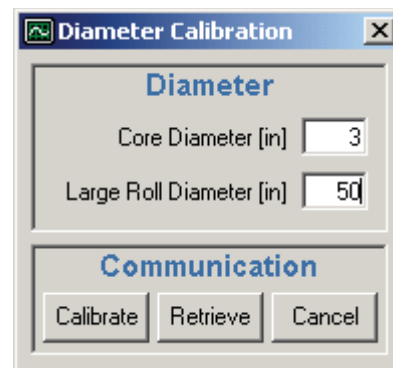

Figure 18 Diameter Calibration
1. Press DIAMETER (See Figure 18).